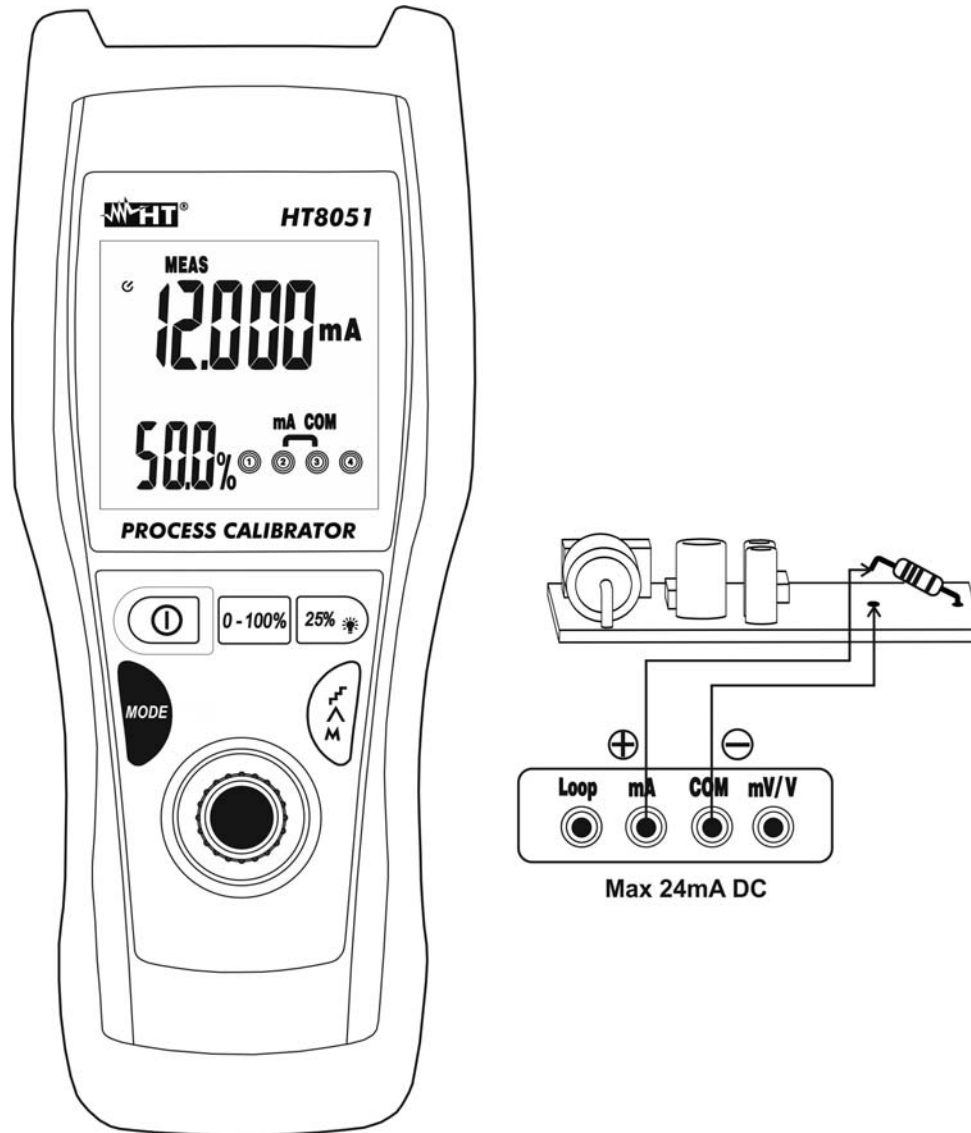

Fig. 5: DC current measurement
4. Connect the green lead and the black lead in series to the circuit whose current you want to measure, respecting polarity and current direction (see Fig. 5)
6. The message "**-OL-**" indicates that the current being measured exceeds the maximum value measurable by the instrument. The instrument do not perform current measurements with opposite polarity respect to the connection in Fig. 5. The value "0.000" is shown at display